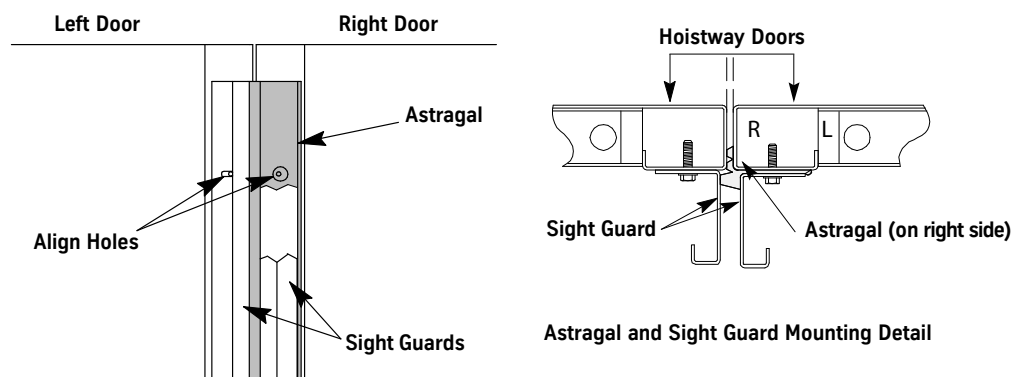

Figure 28 - Astragal and Sight Guard Mounting
2. Place the astragal on the door, aligning the holes of each. See Figure 28 for the remaining steps in this procedure.